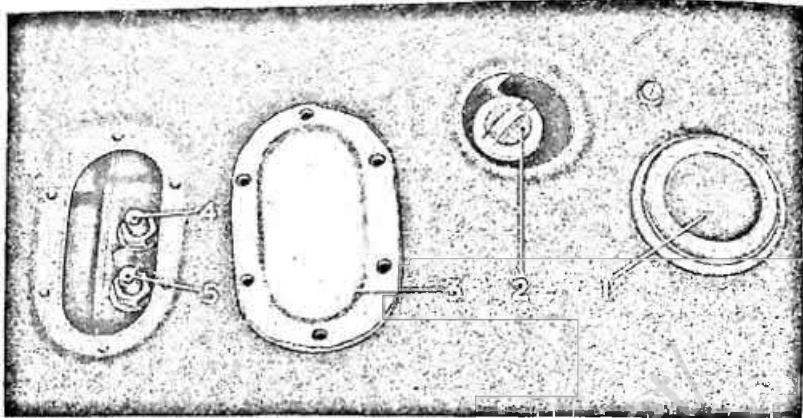

Fig. 15—ACCESS TO GEARBOX.
2. Remove the dipstick access cover (1, Fig. 15) and thoroughly clean around the dipstick. With the engine still running, check the level with the dipstick.